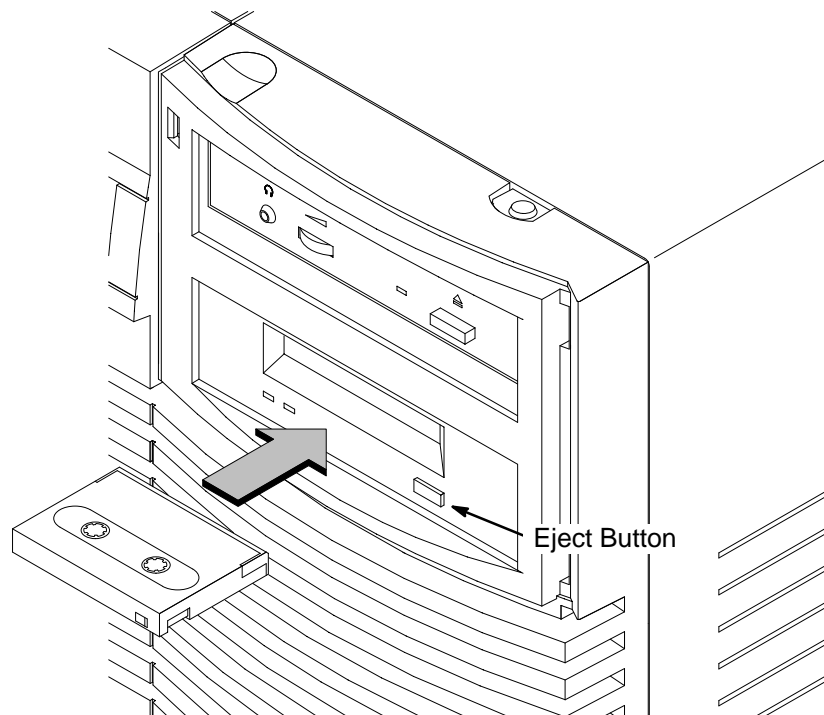

Figure 5–3. Loading a Data Cassette
2. Insert the data cassette into the drive, as shown in Figure 5–3.
4. To remove the data cassette, press and release the eject button on the front of the drive, as shown in Figure 5–3. The LEDs on the drive flash on and off. Ten to twenty seconds later, the data cassette slides partway out of the drive. Remove the cassette from the drive.